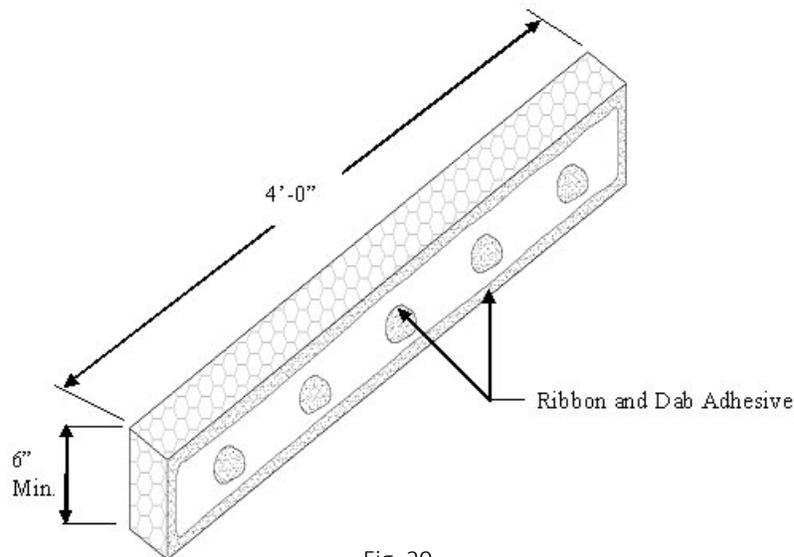

Fig. 29
8. Tops of walls, sills of continuous windows and other horizontal system terminations are terminated using 6 in or 12 in x 48 in (152 mm or 305 mm x 1.2 m) Closure Blocks. These are adhered to Backstop NT using a ribbon and dab adhesive pattern as shown in the Figure 29.